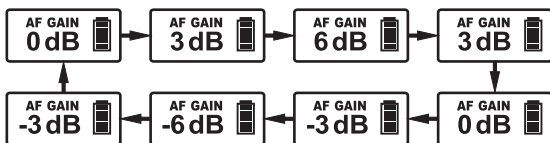

Fig. 7
4. AF GAIN: Audio Gain, Fig. 7
- (A) Adjusts audio level from 0dB to 6dB in 3dB step.
- (B) Press the MODE button to access the AF GAIN parameter. Press the SET button, the parameter value flashes. Press the SET button again and the values rotate by each press. Press the MODE button to save the selected value or the value will save automatically when it stops flashing.
- (C) The higher the gains, the lower the dynamic range for signal input and the greater the danger of unwanted noises and higher chances of feedback.
- (D) The default value of AF Gain is 0dB.